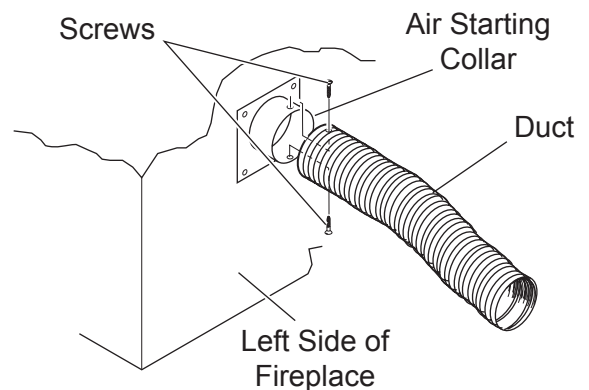

Figure 45 - Attaching Outside Duct to Starting Collar
4. Attach outside duct to starting collar with duct clamp or screws. *See Figure 45.*
6. Select and cut a piece of duct long enough to attach to the fireplace and stick out at least 3" beyond the face of the wall to which the AK-4 inlet air vent will be attached. *See Figure 45.*